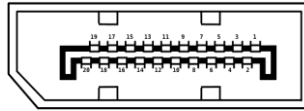

Figure 3-28: External DisplayPort Connector Location
- CN Location: See Figure 3-28